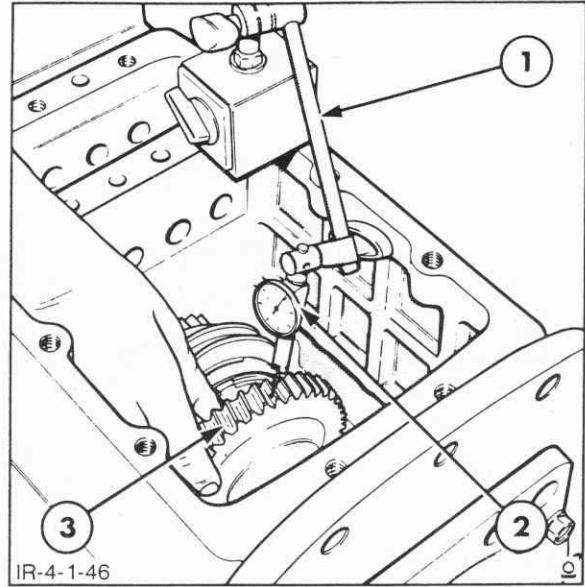

Figure 4-146
1. If transmission gear wear is suspected, prior to removing the rear cover and output shaft bearing retainer, check the gear backlash. Position a dial indicator gauge on the transmission casing as shown in Figure 4-146, and measure the backlash on output shaft gears.